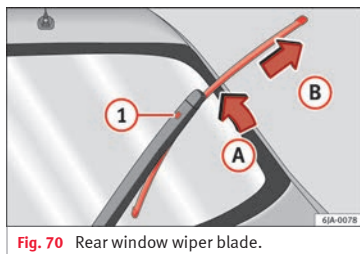

Fig. 70 Rear window wiper blade.
- Lift the rear window wiper arm away from the glass moving the blade slightly in the direction of the arm – arrow **A** » » » **Fig. 70**.